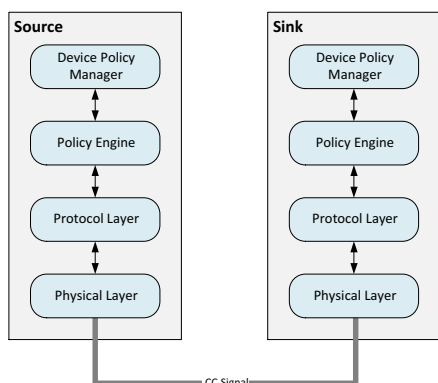

Figure 28. USB PD Communications Stack
USB Power Delivery (PD) provides a way for a Source and Sink device to negotiate output power settings, allowing for increased power delivery up to 100W. USB PD uses the CC signal that is passed through the USB cable to provide the link between a Source device and a Sink device. In order to communicate properly over the CC signal, all USB PD-capable devices include four major communication components, the Physical Layer, Protocol Layer, Policy Engine and Device Policy Manager as shown in Figure 28.